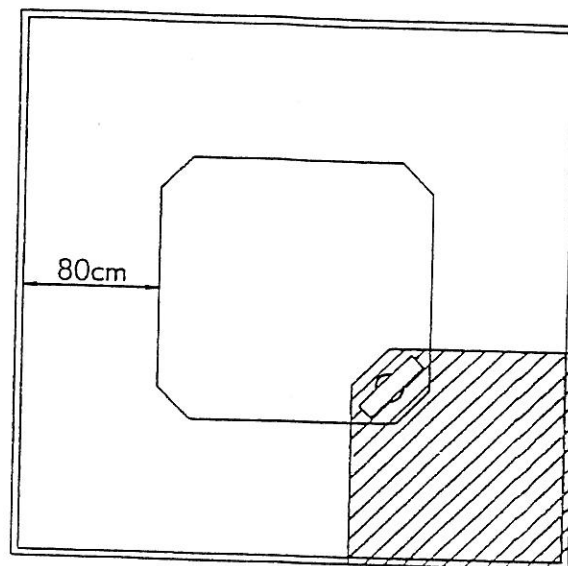

Fig. 7.1
- Make sure that there is a space of at least 80 cm around the machine fig. 7.1. This is essential to enable work operations and maintenance to be performed comfortably.